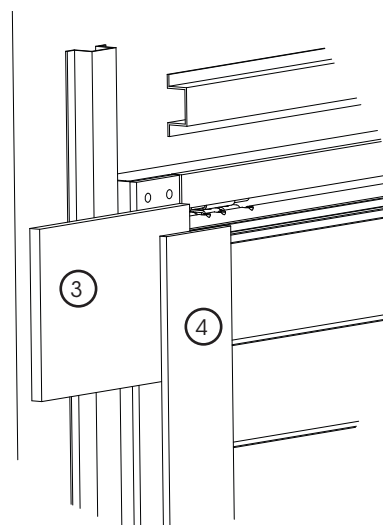

Fig: 3.2.1
- Take one of the boards from your required tool kit and secure both it (4) and the sample cladding (3) to the frame as in Fig 3.2.1.